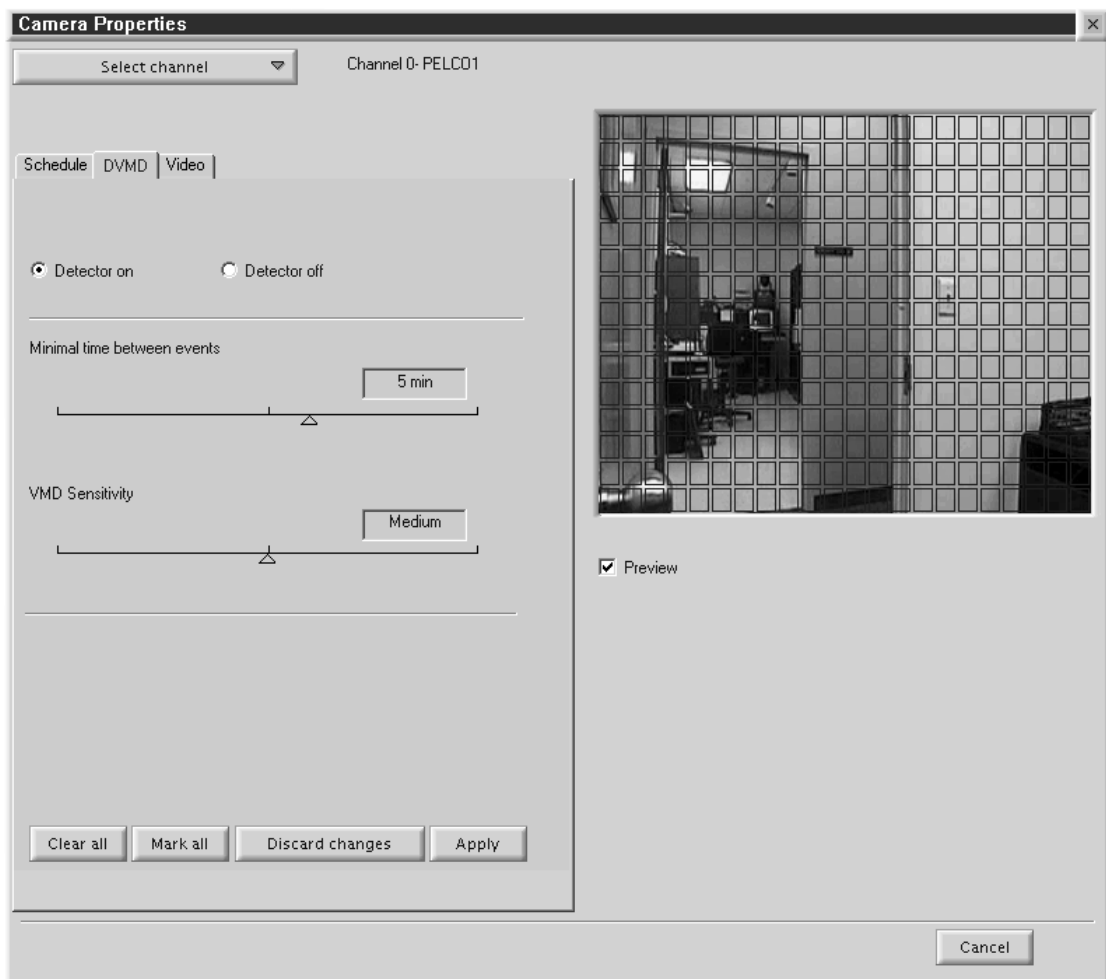

Figure 65. Motion Detection Page
1. Click the DVMD tab. The DVMD page appears. Refer to Figure 65.